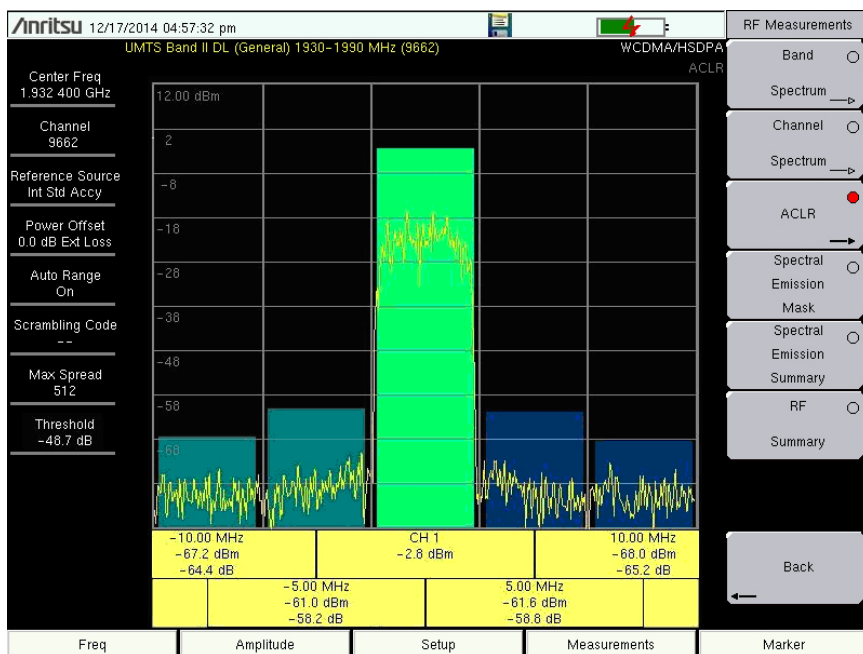

Figure 3-3. ACLR Measurement
5. Press the ACLR submenu key again and select one main channel and two adjacent channels (Figure 3-3).